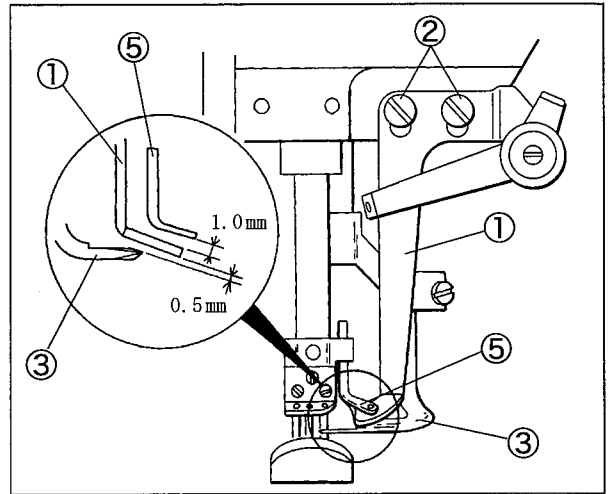

Fig. 46
- (1) Loosen the screws ② of the top cover thread guide ①. (Fig. 46)
- (2) Make the clearance between the top of the spreader ③ and the bottom of the top cover thread guide ① to 0.5 mm. (Fig. 46)
- (3) Make the hook ④ come to the center of the slot of the top cover thread guide ① when the spreader ③ is at the extreme right. Then, tighten the screws ② securely. (Fig. 46, 47)
- (2) Make the clearance between the top of the top cover thread guide ① and the top cover thread eyelet ⑤ to 1.0 mm when the needle bar is at the lowest point. (Fig. 46)